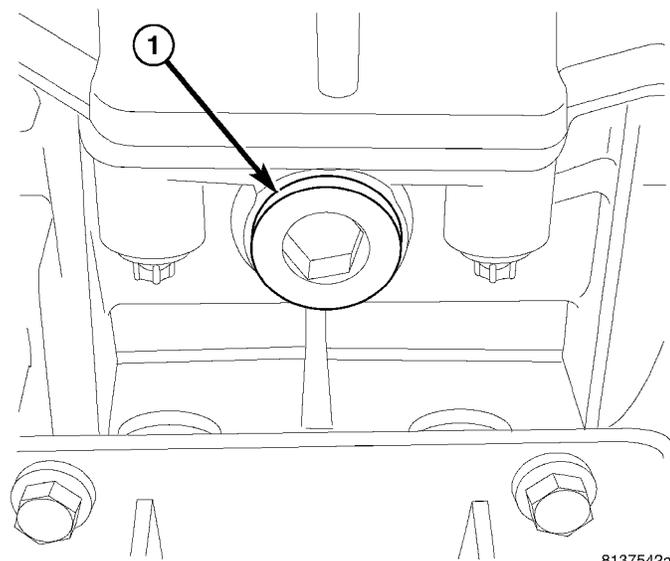

Fig. 1 DRAIN PLUG
- (1) With vehicle in neutral, position vehicle on hoist.
- (2) Remove drain plug (1) (Fig. 1) and drain fluid.